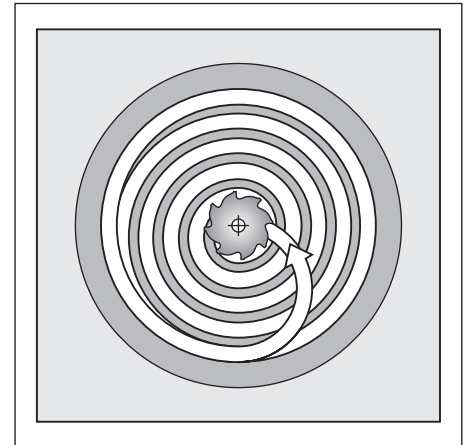

Fig. 8.11: Cutter path for roughing-out
- The cutter subsequently follows a spiral path (shown in figure 8.11) at the programmed feed rate. The stepover factor is determined by the value  $k$  (see G75/G76 POCKET MILLING, Calculations).